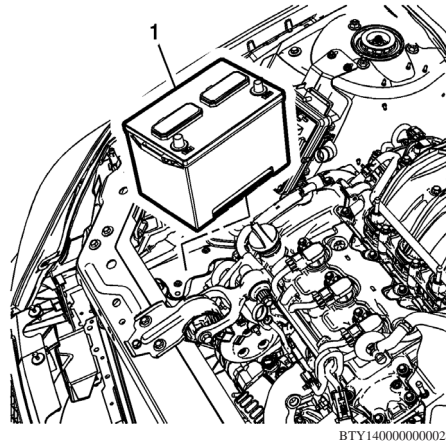

Fig. 7 Battery removal
12. Remove battery (1) from vehicle, **Fig. 7**.
2. Install battery (1) into vehicle, **Fig. 7**.